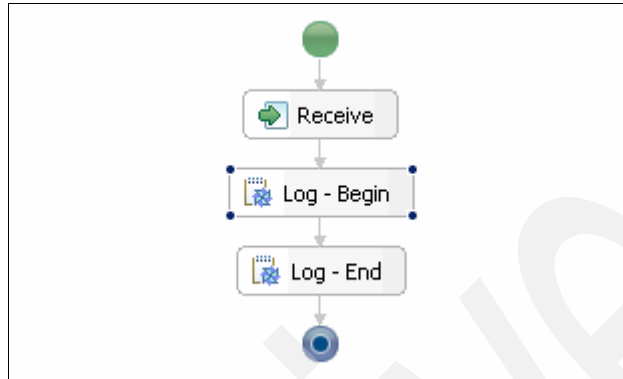

Figure 3-15 OrderManagementBP after adding Snippet Log - End
1. Drag a Snippet activity from the Palette on to the business process and then rename it Log - Begin. Repeat this step to add a snippet named Log - End. See Figure 3-15.